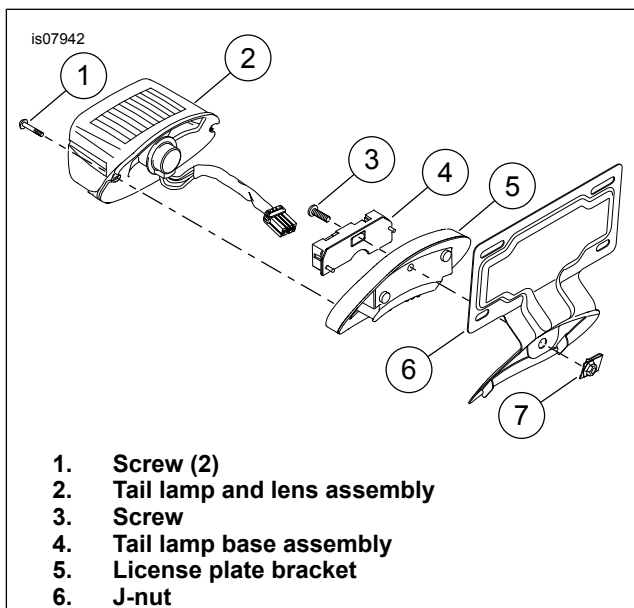
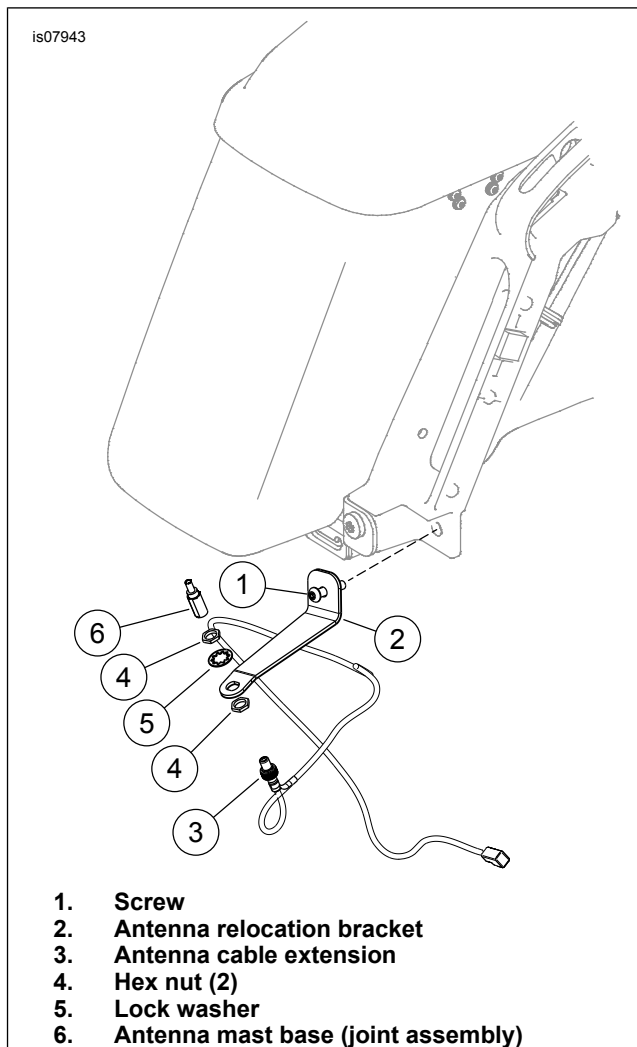
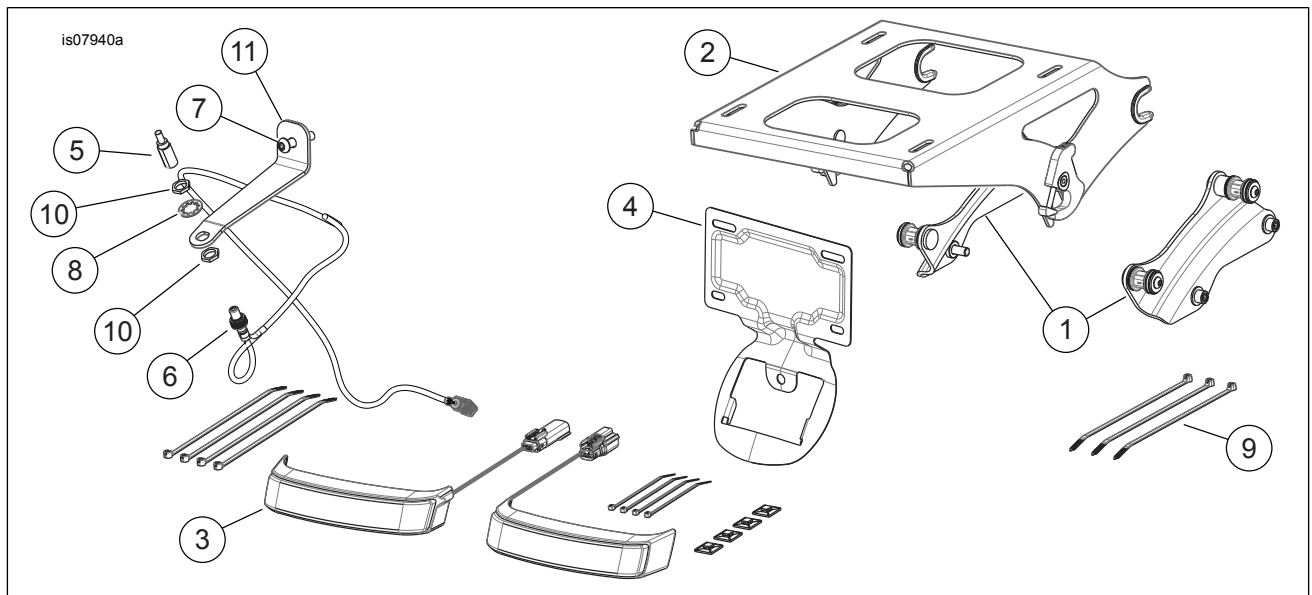

Figure 1. Install License Plate Bracket
Figure 2. Antenna Relocation
Figure 3. Kit Contents: Detachable Tour-Pak Mounting Rack
See Figure 3 and Table 1.
1. See Figure 3. Install the Docking Hardware Kit (2) per the instructions in **that** kit.
2. Install the LED Saddlebag Run/Brake/Turn Lamp Kit (4) per the instructions in **that** kit.
3. See Figure 1. Install license plate bracket.
- a. Remove screws (1).
- b. Disconnect and remove tail lamp and lens assembly (2).
- c. Note connector locations at tail lamp base (4) to ease installation.
- e. Remove screw (3) and tail lamp base.
- f. Install license plate bracket (5) in fender.
- h. Install tail lamp base over license plate bracket. Secure with screw (3).
- j. Connect tail lamp and lens assembly to tail lamp base. Install tail lamp and lens assembly to base and secure with screws (1).
4. See Figure 2. Relocate the radio antenna.
- b. Remove the original equipment (OE) inboard TORX head screw (1) and nut. Discard the screw.
- c. Install antenna relocation bracket (2). Secure with screw (1) and previously removed nut. Tighten to 40.7–50.1 N·m (30–37 ft-lbs).
- d. Install nut (4) onto antenna cable extension (3).
- f. Secure antenna cable extension with lockwasher (5) and nut (4). Place a wrench on the upper nut. Tighten the lower nut to 8 N·m (6 ft-lbs).
- g. Install antenna mast base (joint assembly) (6) onto antenna cable extension.